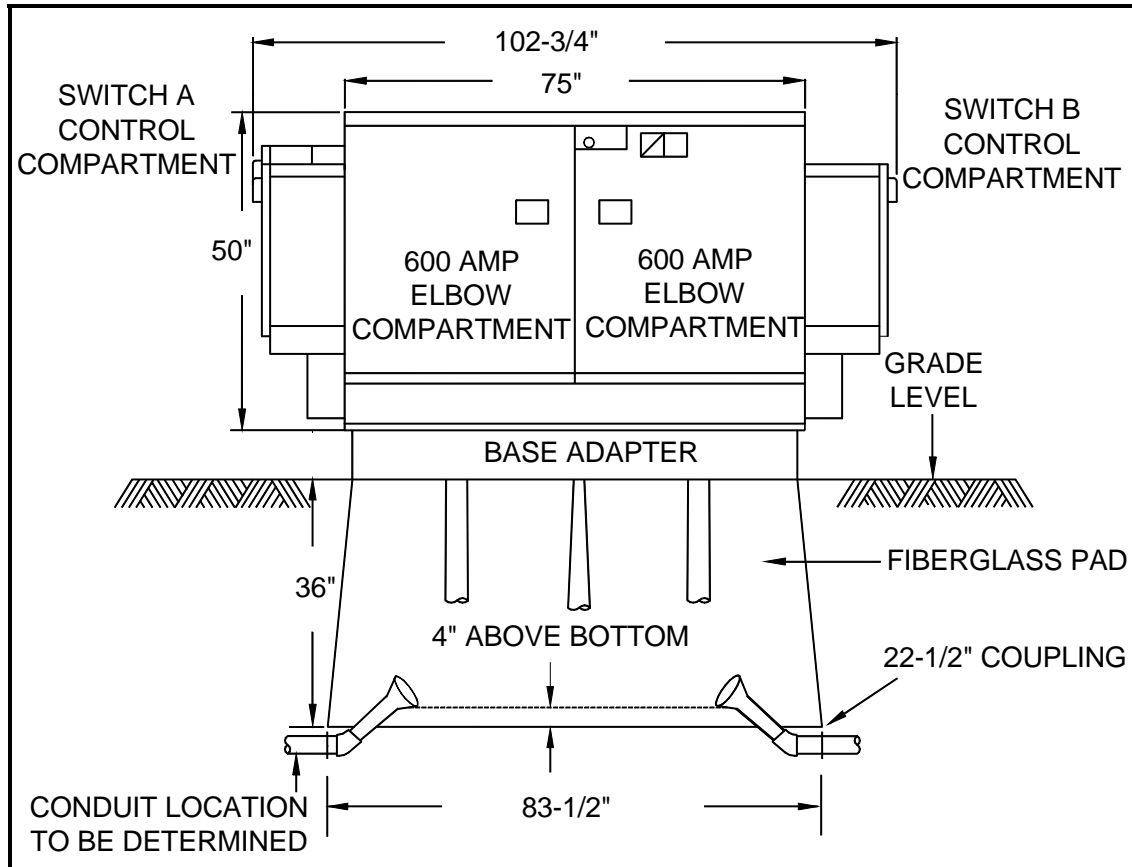
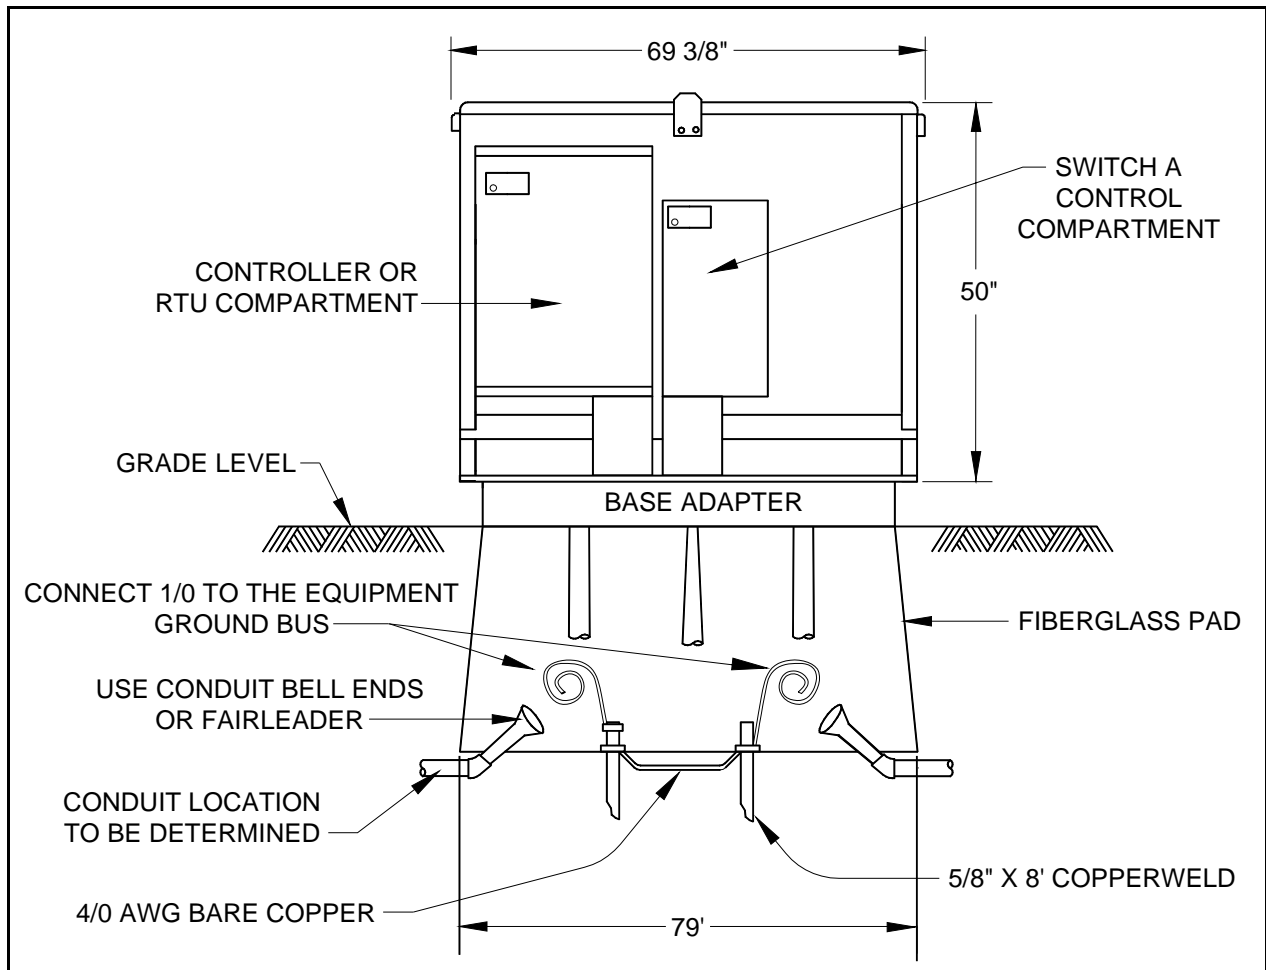
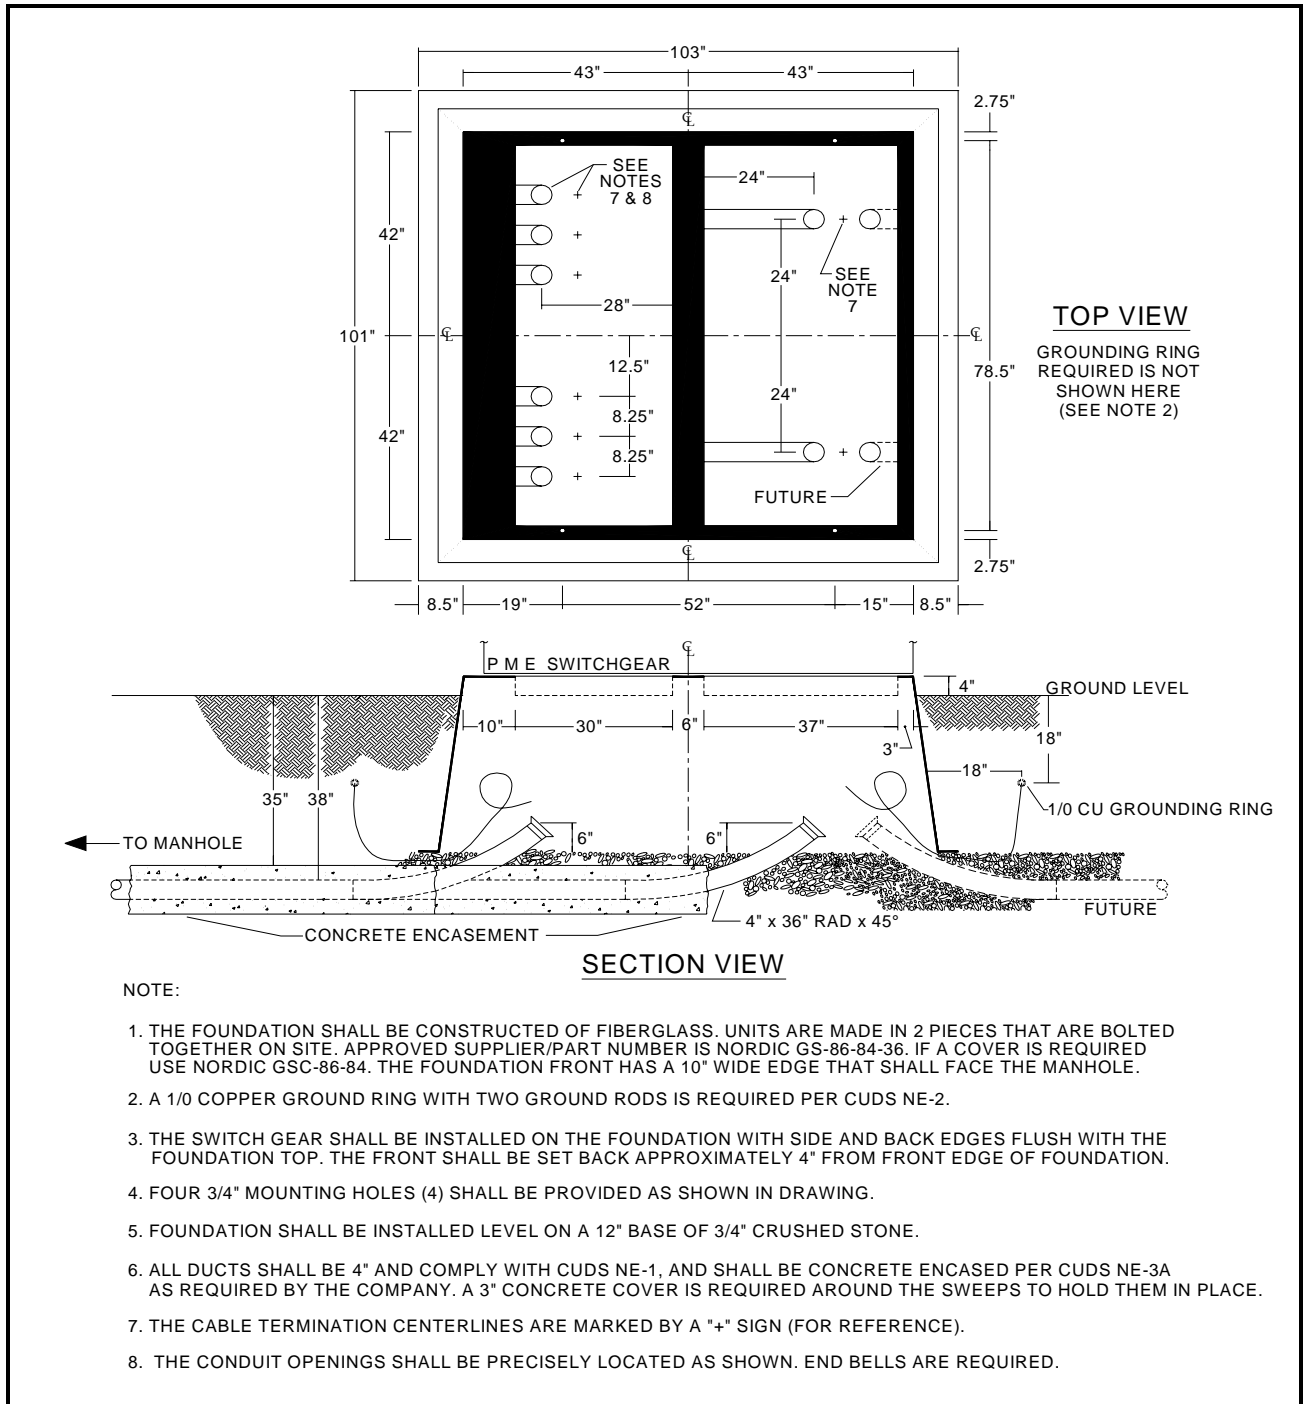

Figure 1 - Typical 15kV, S&C Switch Mounted on Pad (600 Amp Elbow Side) - Front View (Motor Operated Switch Shown with base adapter)
Figure 2 - Typical 15kV, S&C Switch Mounted on Pad (RTU Compartment Side) - Side View (Motor-Operated Switch with Base Adapter)
Figure 3 – Typical 25kV Pad mounted Switchgear Foundation (Fiberglass) Installation
- 2.1 Install the fiberglass pad and the pad mounted switch as depicted in Figure 1, Figure 2, or Figure 3. Reference Table I, "15kV PME-9 Switch Material Selection Guide" on Page 4, for assistance in determining required materials for different applications.
- 2.4 Connect the ground bus to all of the ground rods in the fiberglass pad. See Figure 2.